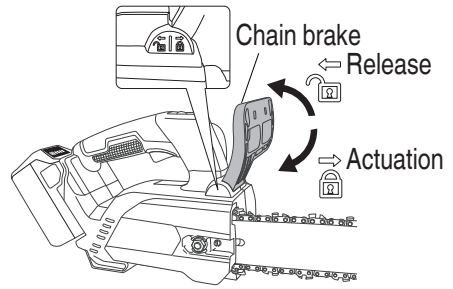

Fig. 20
5. Checking operation of chain brake (Fig. 20)
Push the chain brake in the direction indicated by the arrow to apply the chain brake and stop the saw chain (Fig. 20). To release the chain brake, release the switch and pull back on the chain brake.